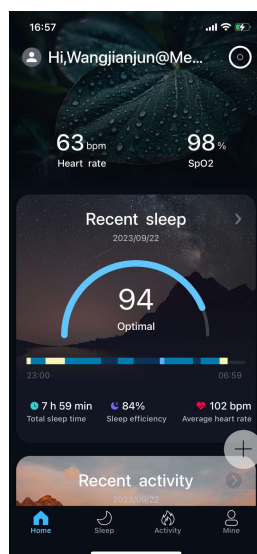

Figure 7
After checking that the MegaRing C30 is worn correctly, opening the MegaRing+ APP, and pairing the MegaRing C30 (which you only need to do the first time you use the Ring), the MegaRing C30 will automatically begin measuring your blood oxygen saturation (SpO₂) and pulse rate (PR) data. The data and battery level will be shown on the MegaRing+ APP as shown in **Figure 7**.